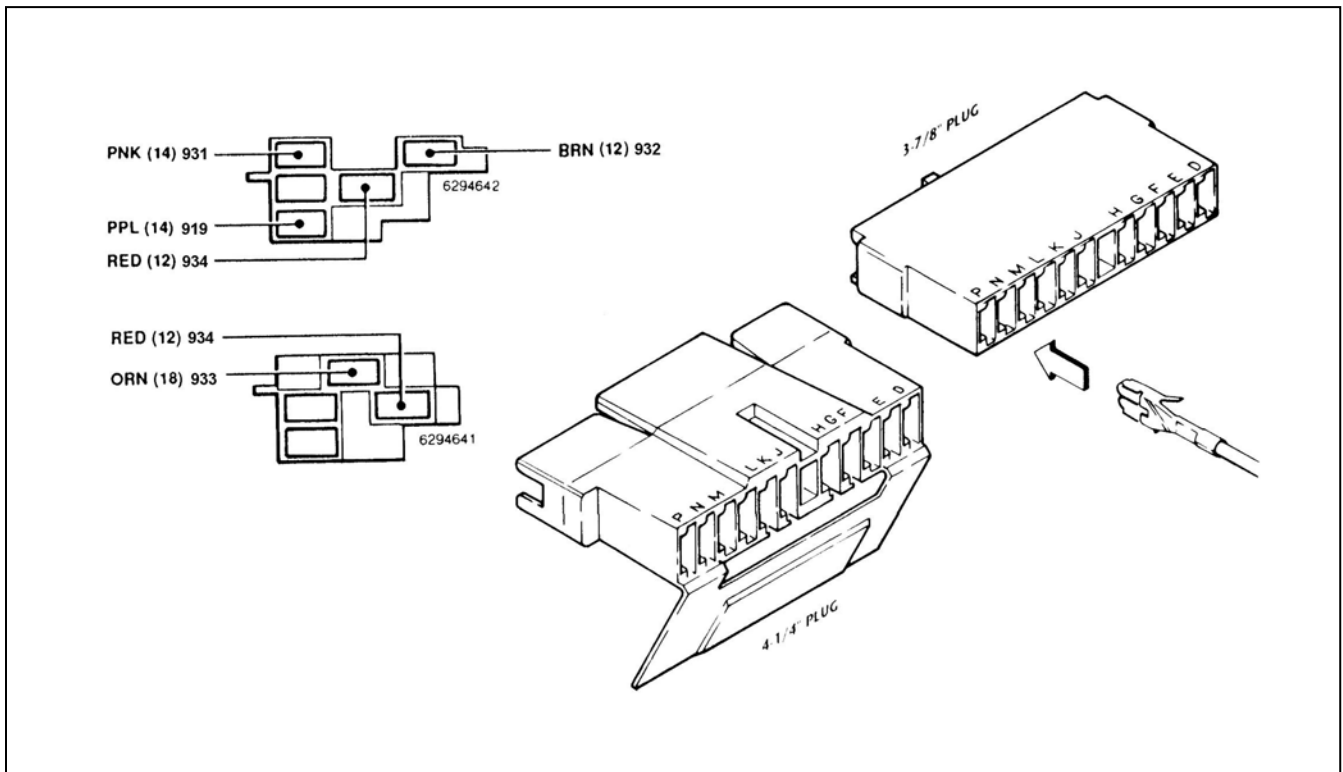

Figure 2-5 GM Turn Signal Connectors
- 2.5.1** There are two different plugs on most tilt columns. The difference is in the length of the male plug that is mounted ON THE COLUMN. One plug is 3-7/8" (3.875") long and the other is 4-1/4" (4.250"). This is only a difference of 3/8" (0.375"), so measure the plug carefully. The Painless # 30806 (Purchased separately) has two different female connectors to mate with the column-mounted plug. See **Figure 2-5** to determine which female connector is correct for your automobile.
Crimp terminals onto the wires to be connected to the turn signal switch. Choose the proper plug and install the terminals according to **Table 2-1**, as shown in **Figure 2-5**. The GM wire color codes have been included for reference.
*Note: The terminals will only insert into the connector ONE WAY, as shown in **Figure 2-5**. Make certain you are inserting the wire Into the CORRECT LOCATION as the terminals are difficult if not impossible to remove once inserted.*
- 2.5.2** See **Table 2-1** and **Figure 2-5** for color codes, wire numbers, and wire designations for the GM Ignition Switch Connectors.